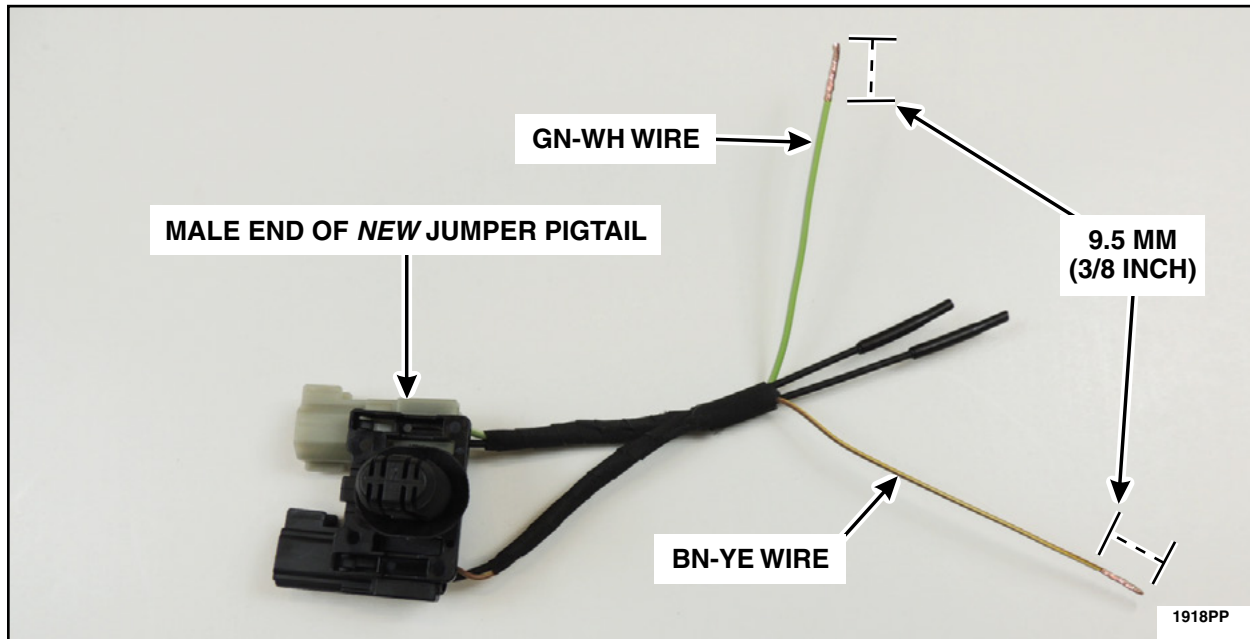

FIGURE 19
22. Strip 9.5 mm (3/8 in) of insulation from the GN-WH and BN-YE wires on the *new* jumper pigtail male connector end. See Figure 19.